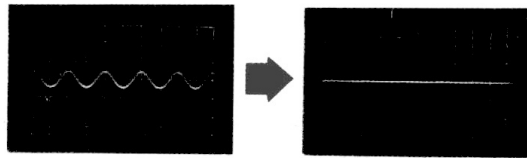

Fig. 5-8. Fm discriminator alignment by signal generator
4. If the discriminator transformer IFT201 is not aligned correctly, a 400-Hz ripple will be observed as shown in Fig. 5-8.
5. Turn the top core of transformer IFT201 with a hexagonal-head alignment tool to obtain a minimum indication on the oscilloscope as shown in Fig. 5-8.